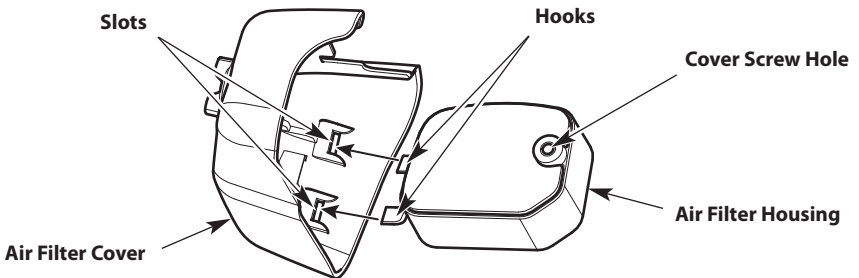

Fig. 28
7. Insert the hooks on the air filter housing into the slots on the air filter cover (Fig. 28).